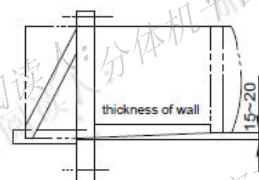
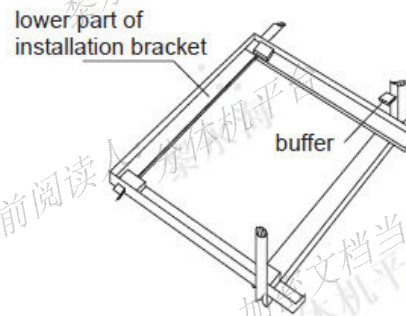

Fig.4
Fig.6
4. The metallic installation bracket should be constructed as fig.4.
3. Put the buffers on the installation bracket as shown in Fig.6. Adjust the appliance as shown in Fig.4.